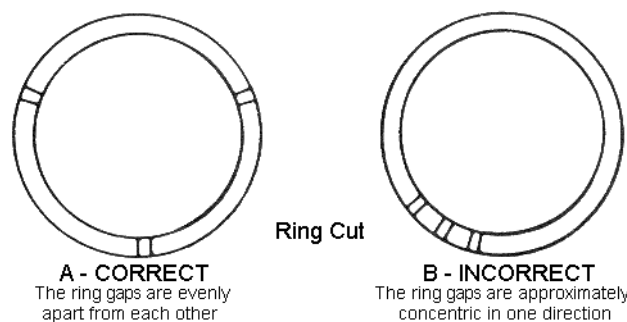

FIGURE 8
5. Check if the ring gaps are in proper positions (Figure 8).